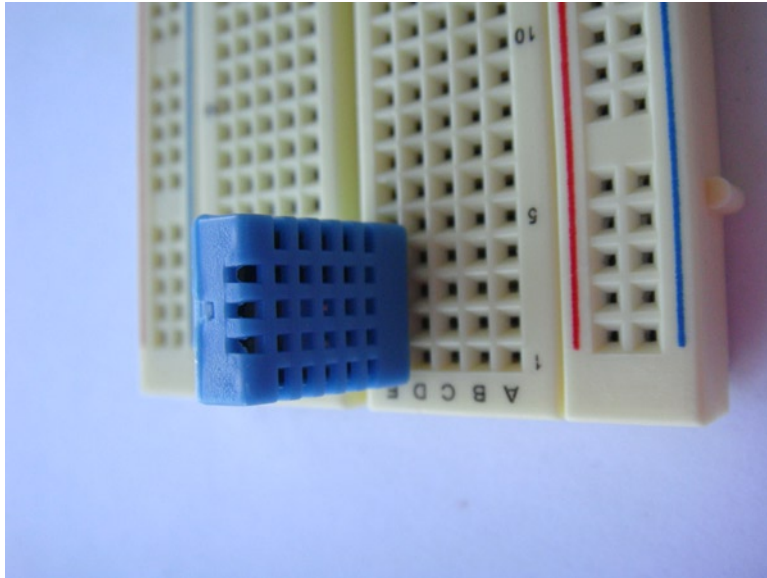

Figure 3-19. DHT11 placement
1. Place your DHT11 into your breadboard. I like to place it so that pin 1 is on row 1 of the breadboard. The front of the sensor has all the little square holes. When looking at the front of the sensor, pin 1 is on the left-hand side. Pin 1 is also the Vcc pin. Take a look at Figure 3-19 to see how I have placed the DHT11.